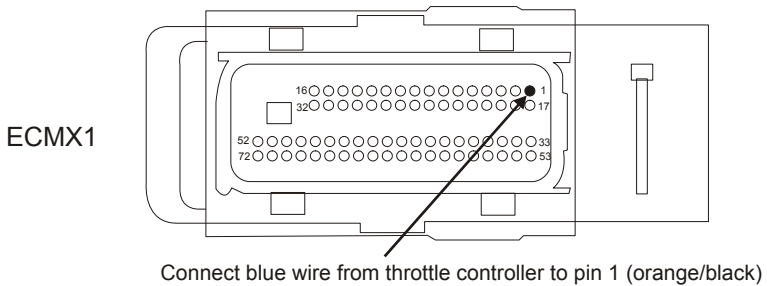

Figure 3.2
- Locate the orange wire with a black stripe at pin 1 of the top ECM connector, ECM-X1 (Figure 3.2).